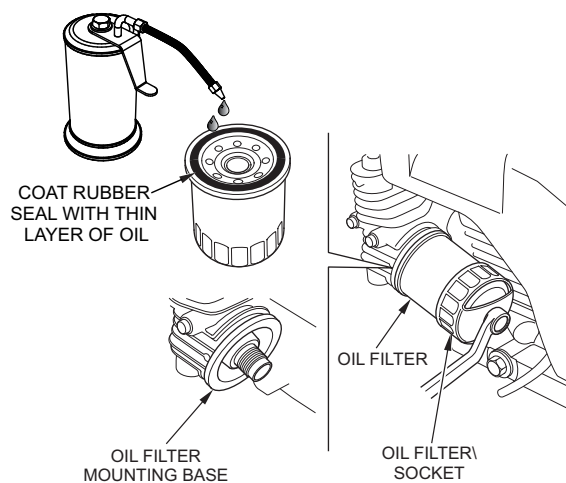

Figure 29. Oil Filter
- Replace the engine oil filter (Figure 29) every 200 hours.
4. Coat the rubber seal (gasket) surface of the oil filter with clean 15W-40 engine oil. See Figure 29.